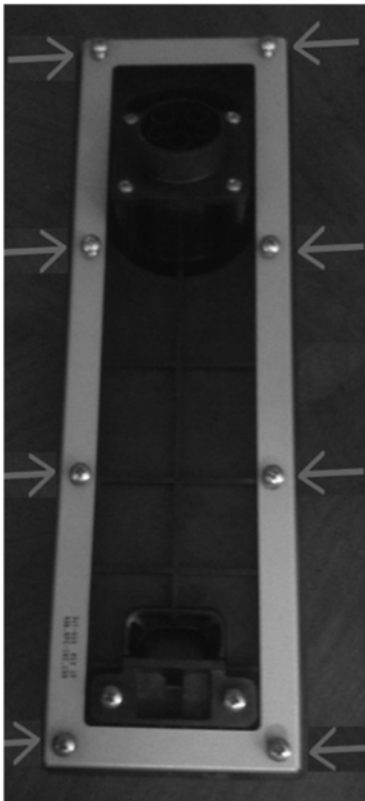

Figure 16 – Front Bezel (Rear View)
3. Remove the 8 Phillips-head screws from the metal retaining flange attaching the front bezel to the front housing (see Figure 16). Retain the screws for later re-installation. Remove the retaining flange and pull the plastic bezel forward off the housing.
12. Place the plastic bezel onto the front housing. Install the retaining flange behind the bezel and install the 8 Phillips-head screws in the metal retaining flange. Torque screws to 10 in-lbs. Do not over-tighten screws or you may damage the plastic! (See Figure 16)